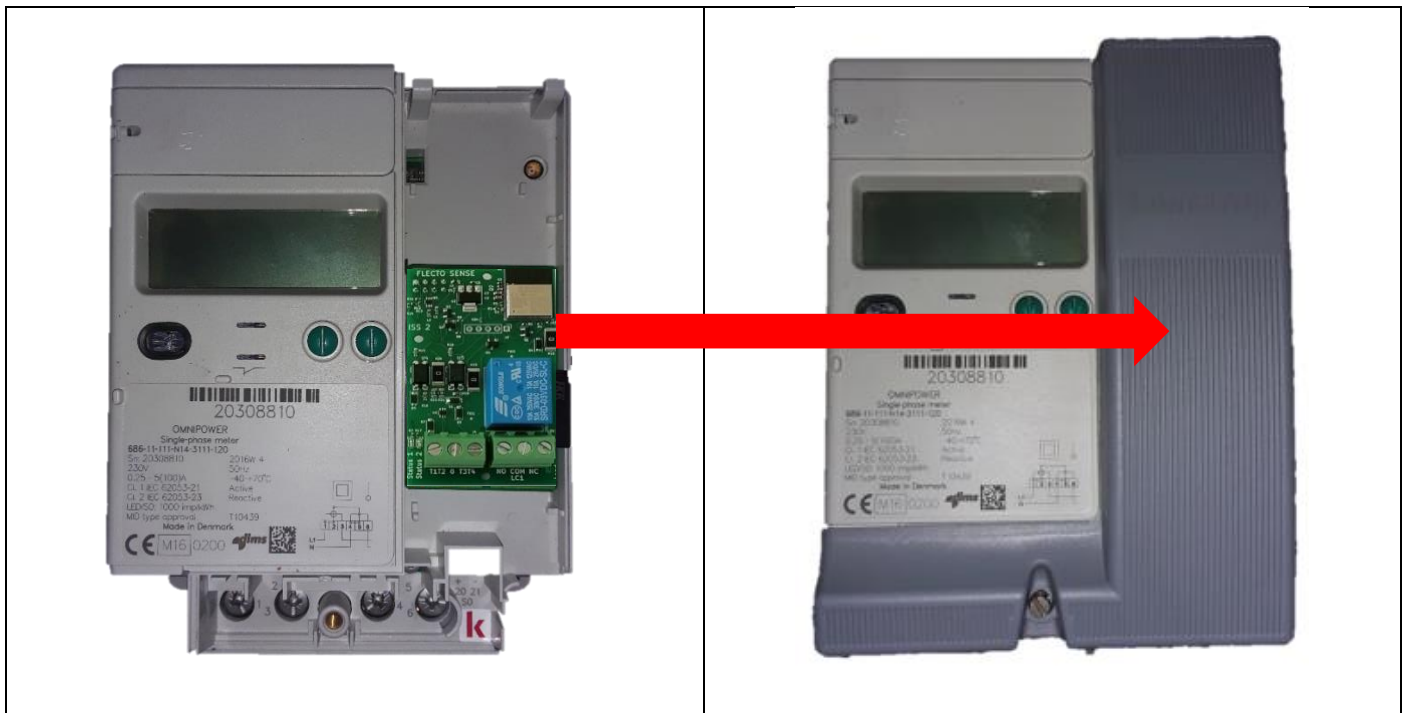

Fig.3
- The module is connected to the meter by inserting it into the main module port of the meter (Please refer to Fig.3) and will automatically be protected by the meter's cover equipped with a tamper switch as well as fasteners that can be sealed